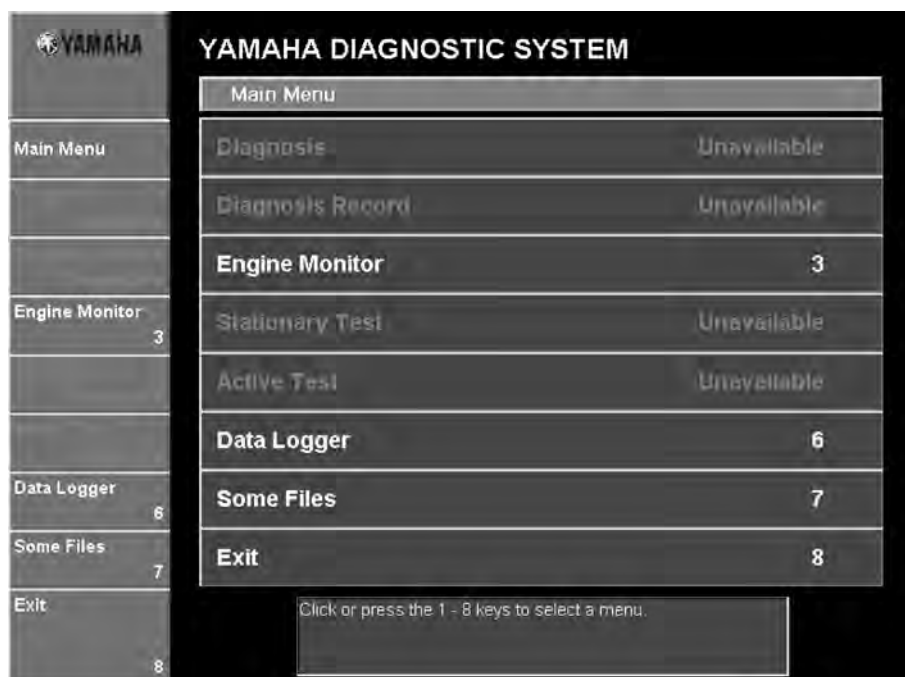

Fig. 60
3. Click the **Engine Monitor** command in the Main Menu or press the 3 key on your keyboard. (Fig. 60)